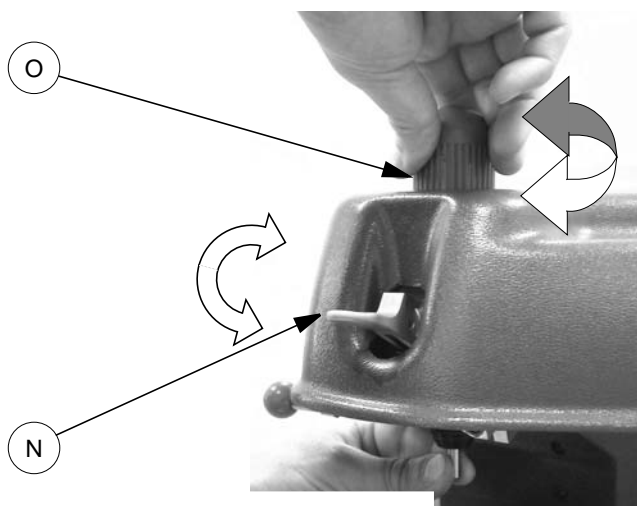

Fig. 16
- lock spindle rotation by lowering the lever (N - fig. 16, page 17).
- turn the knob (O) (fig. 16) anticlockwise until the tool is released.
- lock spindle rotation by means of the lever (N - fig. 16).
- with one hand hold the tool in place and with the other turn the knob(O) (fig. 16, page 17) clockwise.
- release spindle rotation by raising the lever (N - fig. 16).
- lock spindle rotation by lowering the lever (N - fig. 16).
- with one hand hold the tool in place and with the other turn the knob (fig. 16) clockwise.
- release spindle rotation by raising the lever (N).